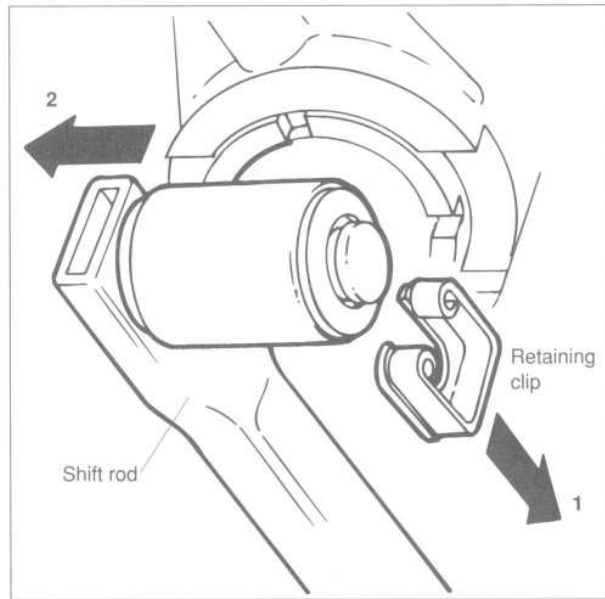

Fig. 3. Pull off circlip in direction of arrow (1) and then disengage shift rod from bushing (2).
4. Working underneath car, remove retaining clip and washer from shift rod. Pull shift rod out of shift lever. See Fig. 3.